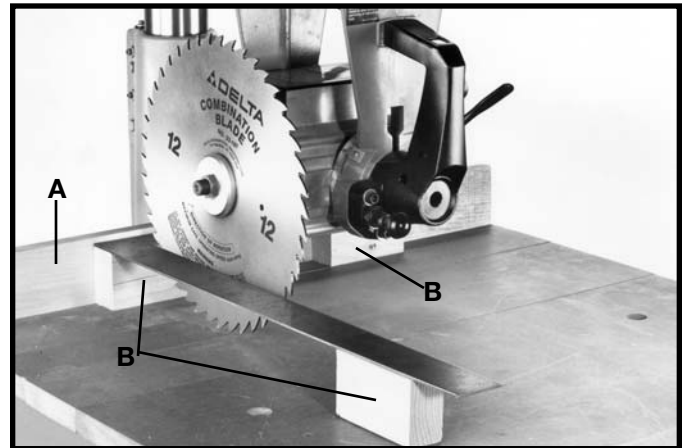

Fig. 55
2. Take a piece of 3/4” plywood or similar piece of wood (A) Fig. 55, at least 5” wide, and clamp it between the table boards in place of the fence, as shown.
3. Using three 2 x 4’s four inches in height, as shown at (B) Fig. 55, lay a square on the 2 x 4’s with one end of the square against the plywood (A) and the other end against the saw blade, as shown in Fig. 55.